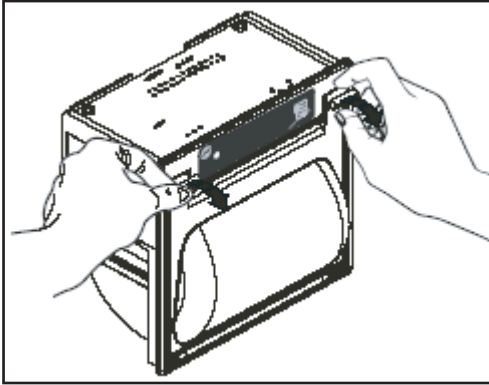

Fig. 37: Opening printer
1. Open the lid of the printer as shown in Fig. 37.